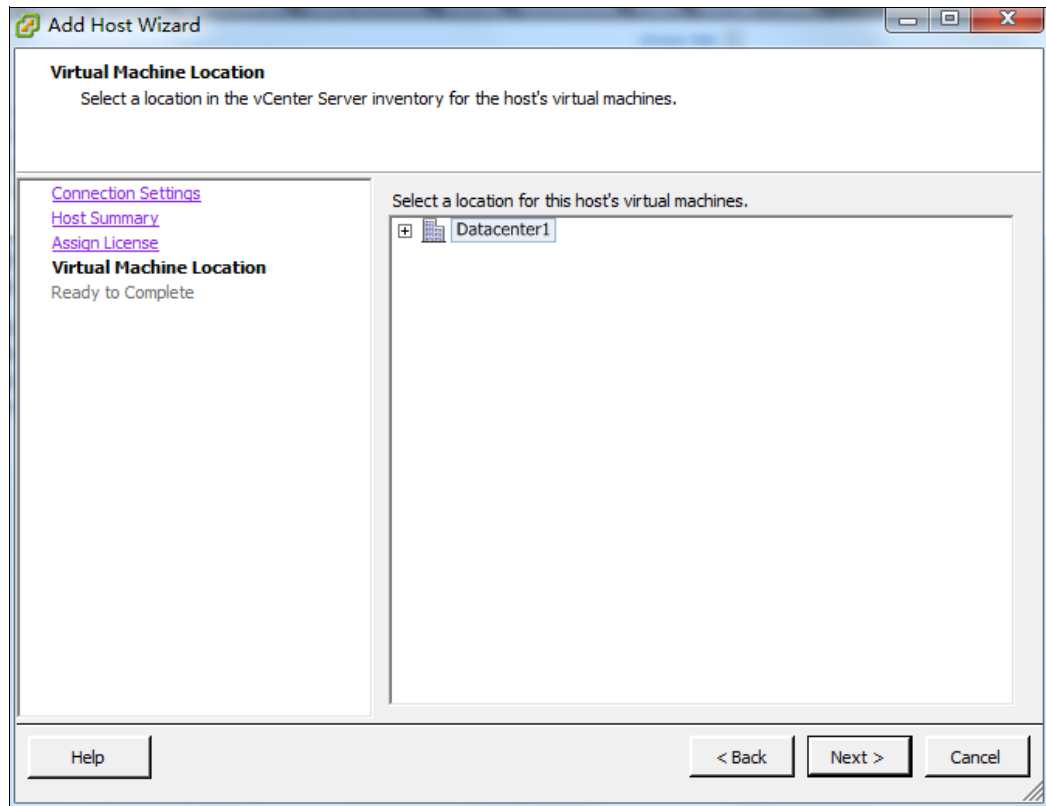

Figure 3-27 Add Host Wizard: Virtual machine location
8. Select the data center to which to add the host, as shown in Figure 3-27. Click **Next** to review the summary. Then, click **Finish**.